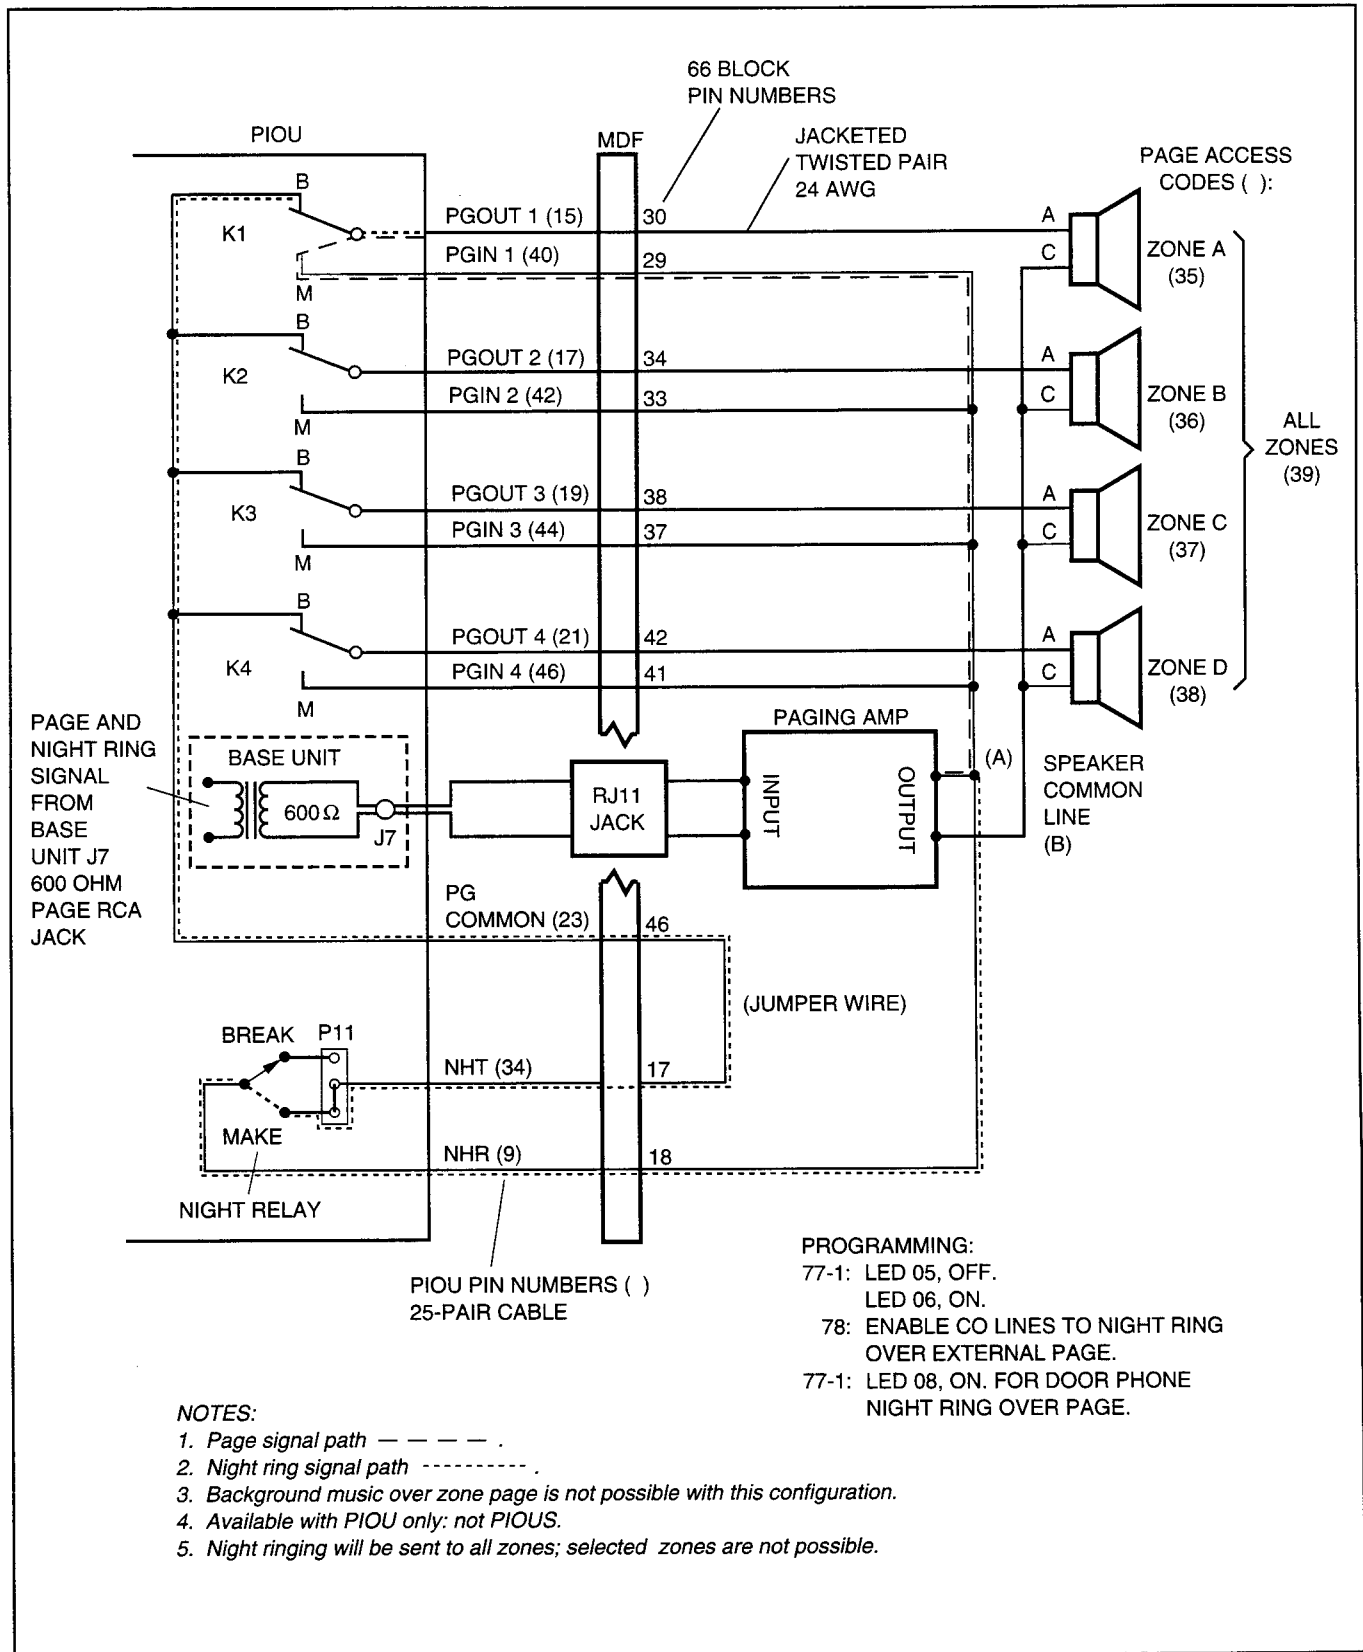

FIGURE 7-18
5.16 DK16 Night Ringing over All External Page Zones (PIOU only). To allow the night ringing signal to be sent over zone paging, install the paging amplifier in accordance with the following steps (refer to Figure 7-18). (Steps 2 ~ 6 are performed at the MDF.)